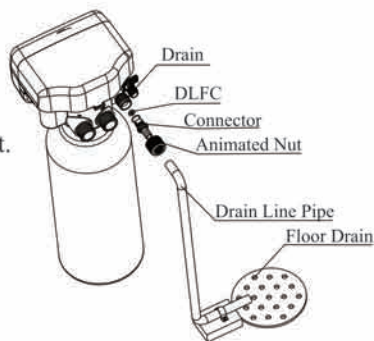

Figure 5
⑤ Install drain pipeline
- As the Figure 5 shows, Insert drain line flow control into drain outlet.
- Locate the drain hose well as the Figure 5 show.
- Be sure not connect drain pipeline with sewer, and as Figure 5 shows, there is a certain space leaved between them to avoid wastewater being absorbed to the water treatment equipment.